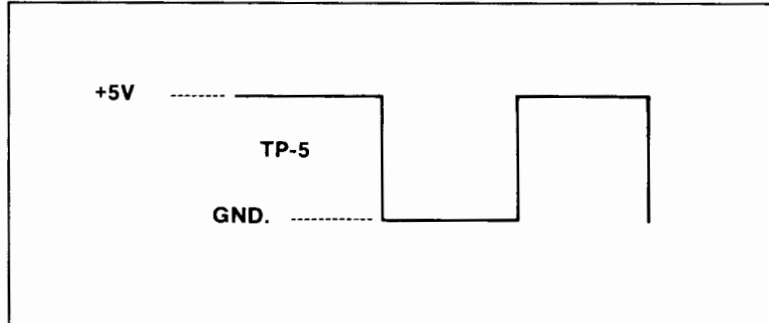

Figure 6-6. Pulsewidth (TP-5)
3. Adjust pulsewidth trim-pot (R28) for a 50% duty cycle. (See Figure 6-6).